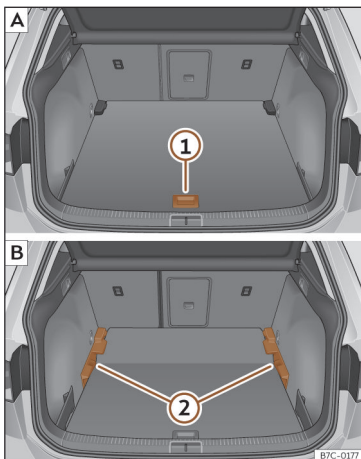

Fig. 109 Variable luggage compartment floor: **A** raised position; **B** lowered position.
- To move from the low position to the high position, lift the floor using the handle >>> **Fig. 109 ①**, and pull it back until the front of the floor has fully passed the supports >>> **Fig. 109 ②**.
- Move the floor forward over the supports as far as the rear seat backrest and then lower the floor with the handle **①**.
- To move from the high position to the low position, lift the floor using the handle >>> **Fig. 109 ①**, and pull it back until the front of the floor has fully passed the supports >>> **Fig. 109 ②**.
- Now let the front part fall to the floor and slide the floor forwards as far as the rear seat backrest; lower the floor at the same time with the handle **①**.
- Lift the variable floor in the high position using handle >>> **Fig. 109 ①**, pull it up and push it towards the backrest of the rear seats until it folds along the hinge line and the movable part of the floor is resting on itself.
- To move from the high position to the low position, lift the floor using the handle >>> **Fig. 109 ①** and pull it back a little.
- Push the variable floor towards the folded rear seats with the handle **①** using some downward pressure so that the moving part of the floor is flush with the backs of the rear seats.